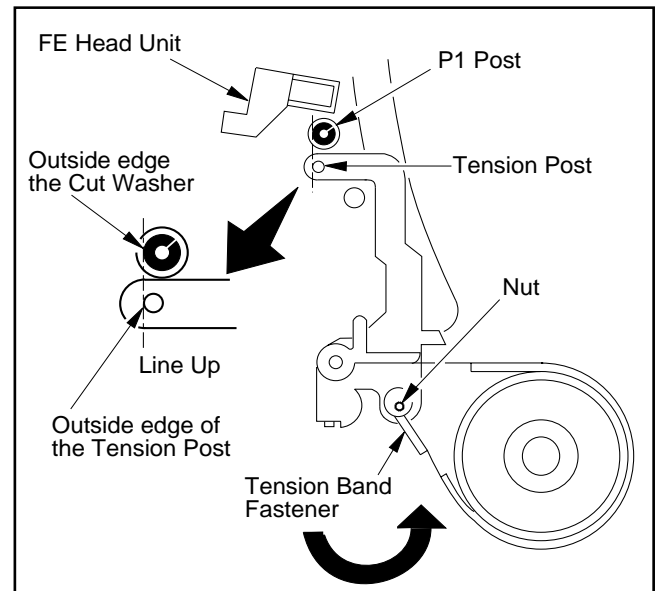

Fig. M7
4. As soon as loading is completed, insert the Hex. Wrench(2mm) into the Tension Band Fastener and adjust it (only counterclockwise) as indicated by the arrow so that the outside edge of the Tension Post lines up with the outside edge of Cut Washer on the P1 post. (See Fig. M7)